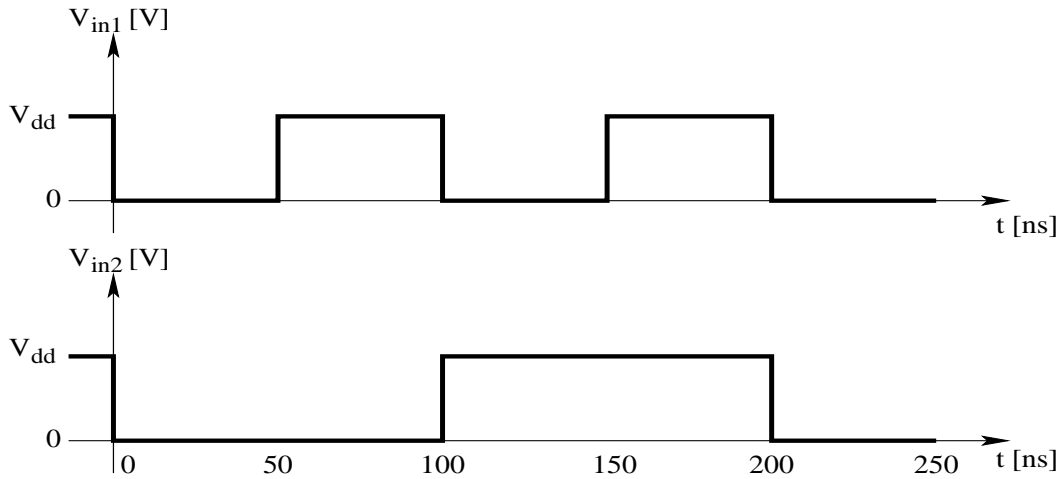

Figure 1: Input pulses for simulation of the project 1 design
- b) the response to the transient signals shown in Fig. 1 (save as *trans.ps*). Use  $C_L = 0.2pF$  and set all rise and fall times to 1ns.